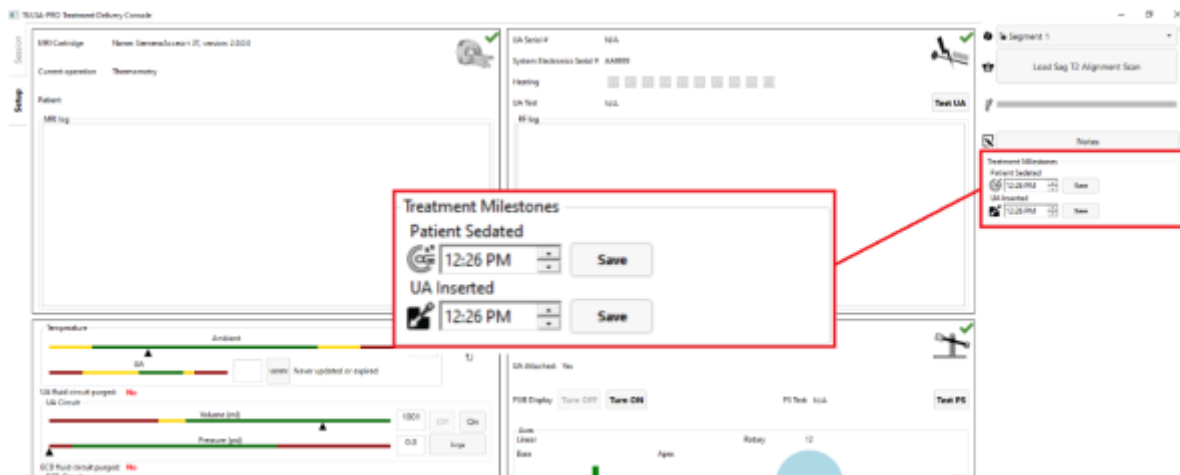

Figure 29: Entering Treatment Milestones in the TDC Setup Workspace
1. In the TDC *Setup* Workspace, enter the sedation and UA insertion times under **Treatment Milestones** (*Figure 29*).